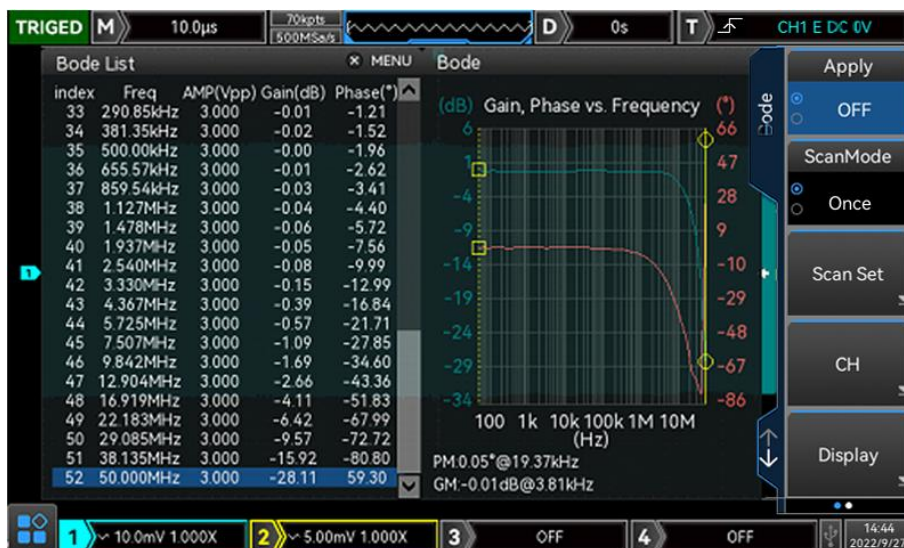

Figure 13-5
**Data list** displays all scanning point information scan by bode diagram as shown in Figure 13-5, which includes serial number, frequency, amplitude, gain and phase information. It can set turn on or off.